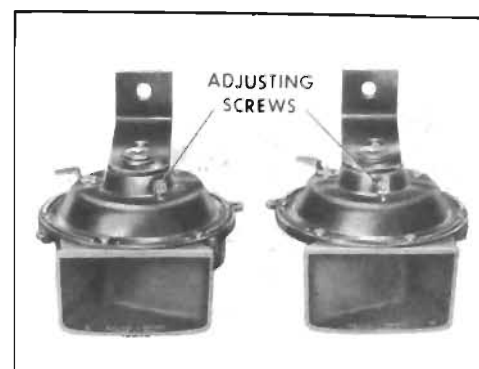
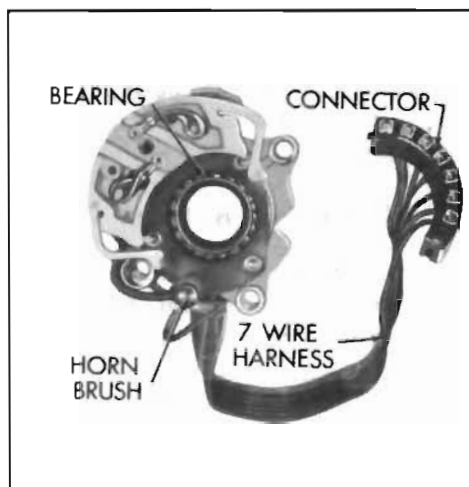

Figure 10-58—Matched Horn Set
Figure 10-60—Turn Signal Switch Plate and Wiring Assembly
3. Adjust to specified current draw if necessary, by turning adjusting screw clockwise to decrease or counterclockwise to increase current draw. Turn only 1/4 of a turn at a time. If adjustment loosens screw excessively, it may be staked with a prick punch. See Figure 10-58.
The direction or turn signal switch is mounted in a housing at the upper end of the steering column mast jacket, just below the steering wheel. See Figure 10-58. The turn signal actuating plate (on the inner end of the control lever) is mounted to a pivot just over and contacting the turn signal switch. This switch is integral with a seven wire harness (about 1-1/2 feet long) and a multiple connector. See Figure 10-60. The switch and a spring-loaded horn brush are both mounted in the switch plate base.